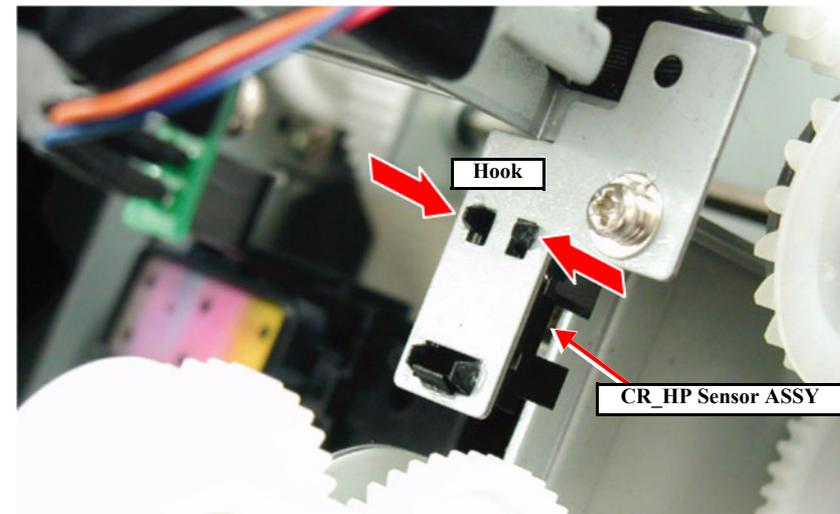

Figure 4-47. Removing the CR\_HP Sensor
4. Pinch the two upper hooks of the CR\_HP Sensor ASSY and disengage them from the holding plate, and disconnect the connector. (See *Figure 4-47*)